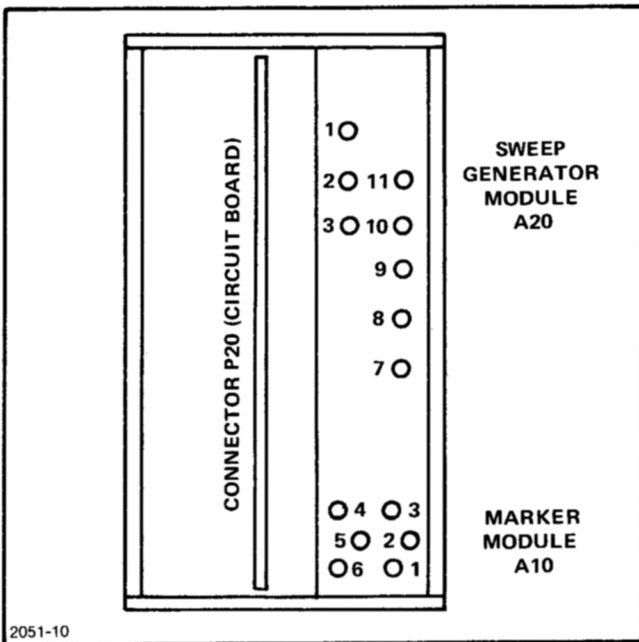

Figure 3-1. SW 503 rear view.
a. Connect the digital voltmeter between ground and pin 2 of the Sweep Oscillator Module A20 (locate in Figure 3-1).
c. Connect the digital voltmeter between ground and pin 3 of Sweep Oscillator Module A20 (locate in Figure 3-1), and check for a reading of -18.00 V ± 0.2 V.
e. Connect the digital voltmeter between ground and pin 3 of Marker Module A10 (locate in Figure 3-1), and check for a reading of $+5$ V ± 0.2 V.